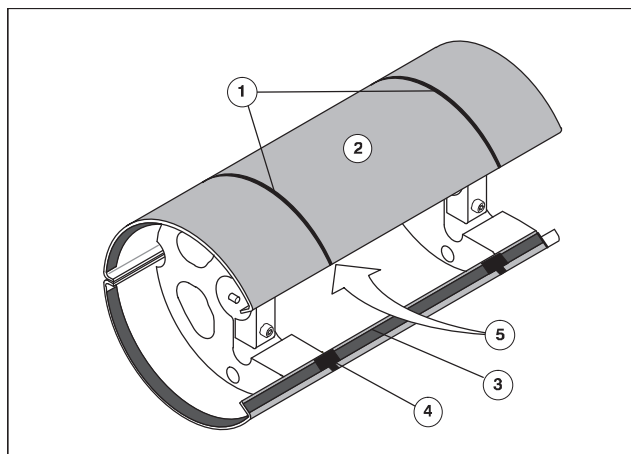

Fig. 22 Super Blue Stretch Bands
The Stretch Bands (Fig. 22/1) are mounted on the Super Blue net (Fig. 22/2) that has been pulled on. Place Stretch Bands only in non-print areas in the circumferential direction of the printed image!
1. Tilt the press until the Velcro strip at the front edge of the base cover (Fig. 22/3) is accessible.
2. Press a Velcro strip of the Stretch Band (Fig. 22/4) on the Velcro strip of the delivery drum (Fig. 22/3).
4. Firmly press the rear Velcro strip of the Stretch Band (Fig. 22/5) against the Velcro strip at the rear edge of the base cover.